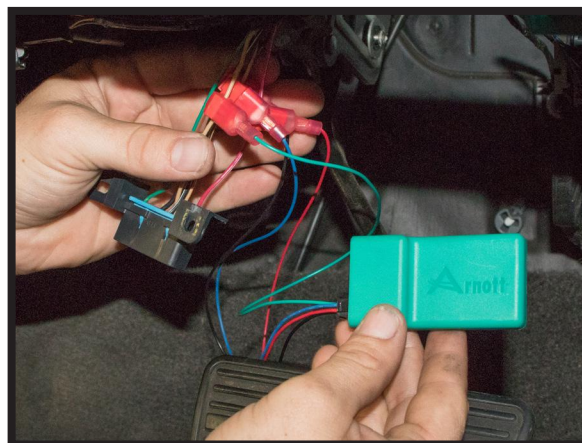

FIGURE 89
7. ONCE ALL THE WIRES HAVE BEEN CONNECTED YOU WILL NEED TO SECURE THE EBM UNDER THE DASH AND AWAY FROM ANY SOURCE OF HEAT AND/OR ANY MOVING PARTS. (FIGURE 89)